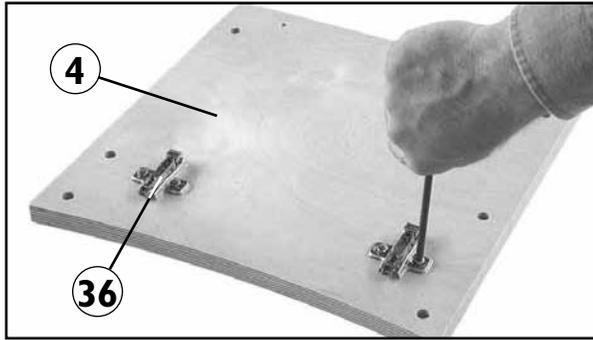

Fig. 3
3. Attach the two hinge mounting plates (36) to the left side panel (4). Carefully study the orientation in **Fig. 3**. The hinge mounting plates resemble a cross. Locate the top of the cross nearest the curved front edge of the left side panel, as shown. On the bottom of the cross you will find the hinge release lever. All cross dowel holes are located inside the cabinet.